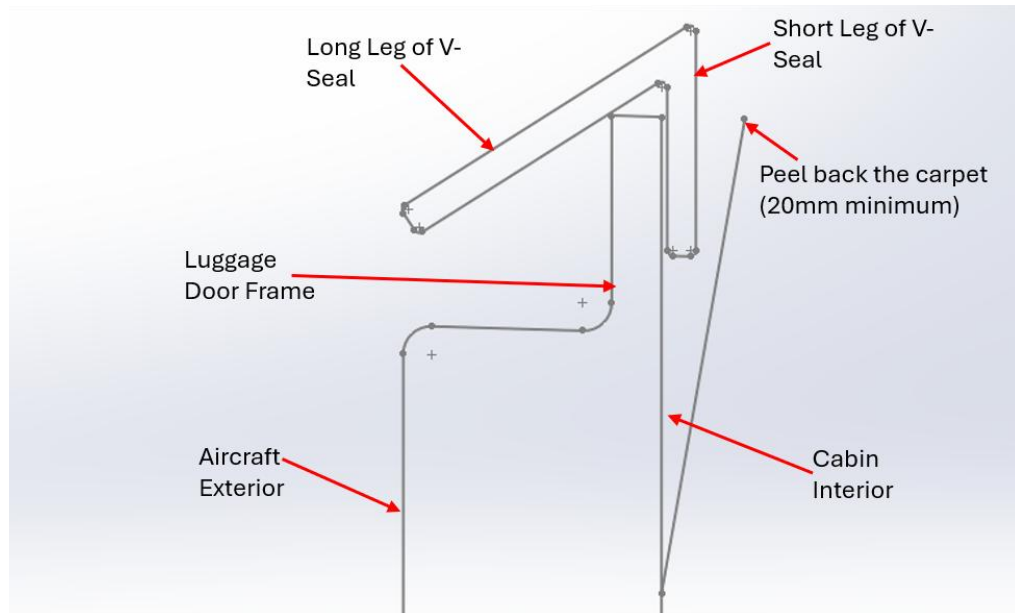
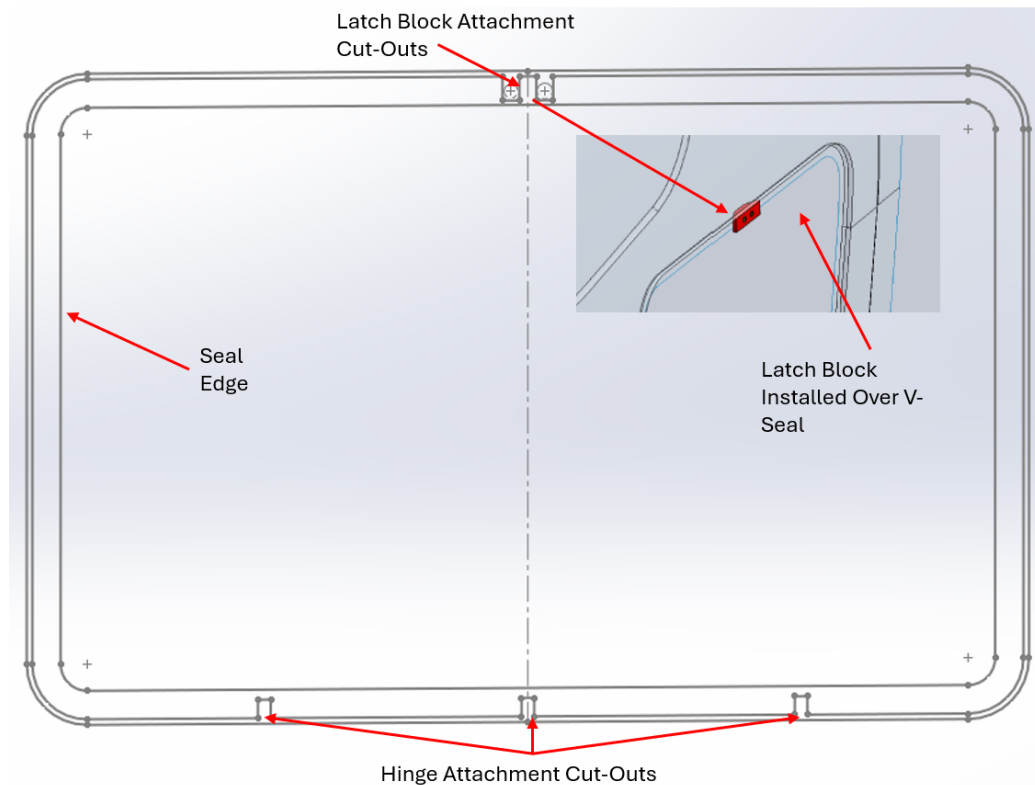
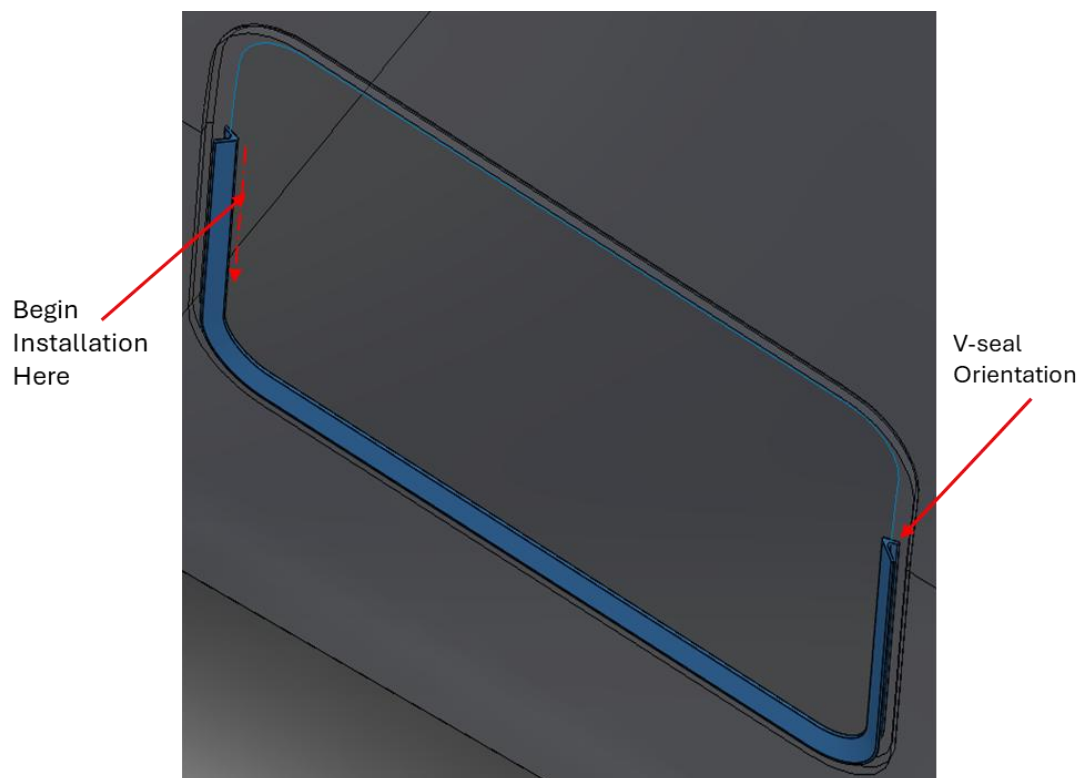

Figure 3: Luggage Door V-Seal Installation Cross-Section
Figure 5: Luggage Door V-Seal Installation Showing Hardware Attachment Cut-Outs.
Figure 6: V-Seal Installation on Luggage Door Frame, showing V-profile orientation
1. Refer to Figure 3, Figure 5 and Figure 6 for seal placement and orientation.
8. Cut reliefs in the V-seal at the latch block and hinge attachment locations as shown in Figure 5. Ensure the cut-outs provide sufficient clearance for installation of the existing hardware while maintaining continuity of the seal.